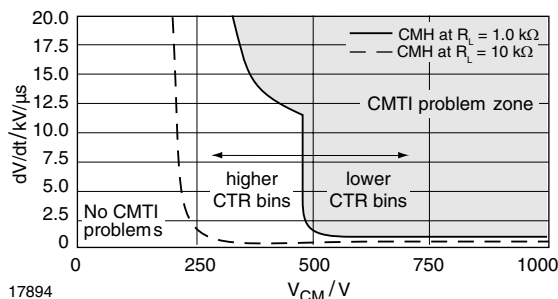

Fig. 18 - Typical  $CM_H$  with  $R_{BE} \rightarrow \infty$  Characteristics for 6 pin Transistor Optocouplers with External Base Connection
- If operating the phototransistor in transistor switch or emitter follower mode, the pull up resistor should be chosen to a low value (compare with figure 18)
- It is also recommended to choose low CTR binning types (compare with figure 18), because of their lower  $h_{FE}$
Due to the strong influence of semiconductor parameters (compare especially with equation (8)), it is hardly possible to give a general curve which is valid for all optocouplers. Hence, figure 18 gives only a general information without claiming to be valid for every type.